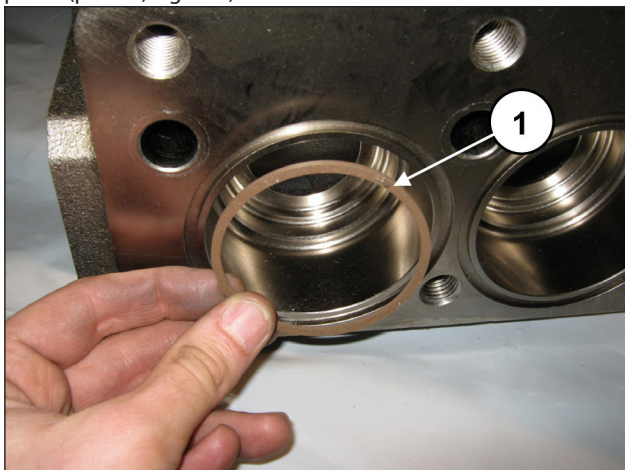

Fig. 153
Fit the back-up ring in the suction housing, exploded view pos. 6 (pos. ①, Fig. 153).